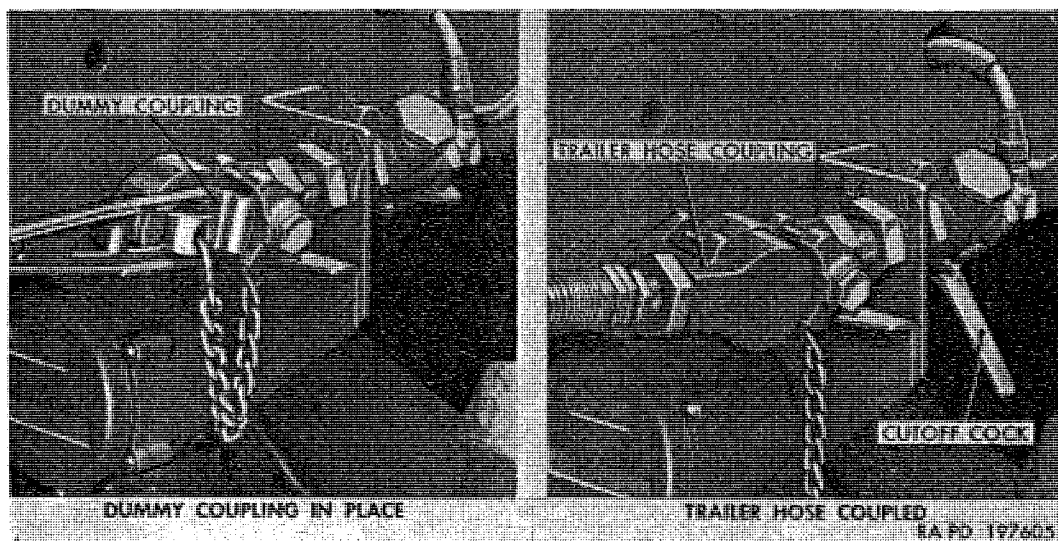
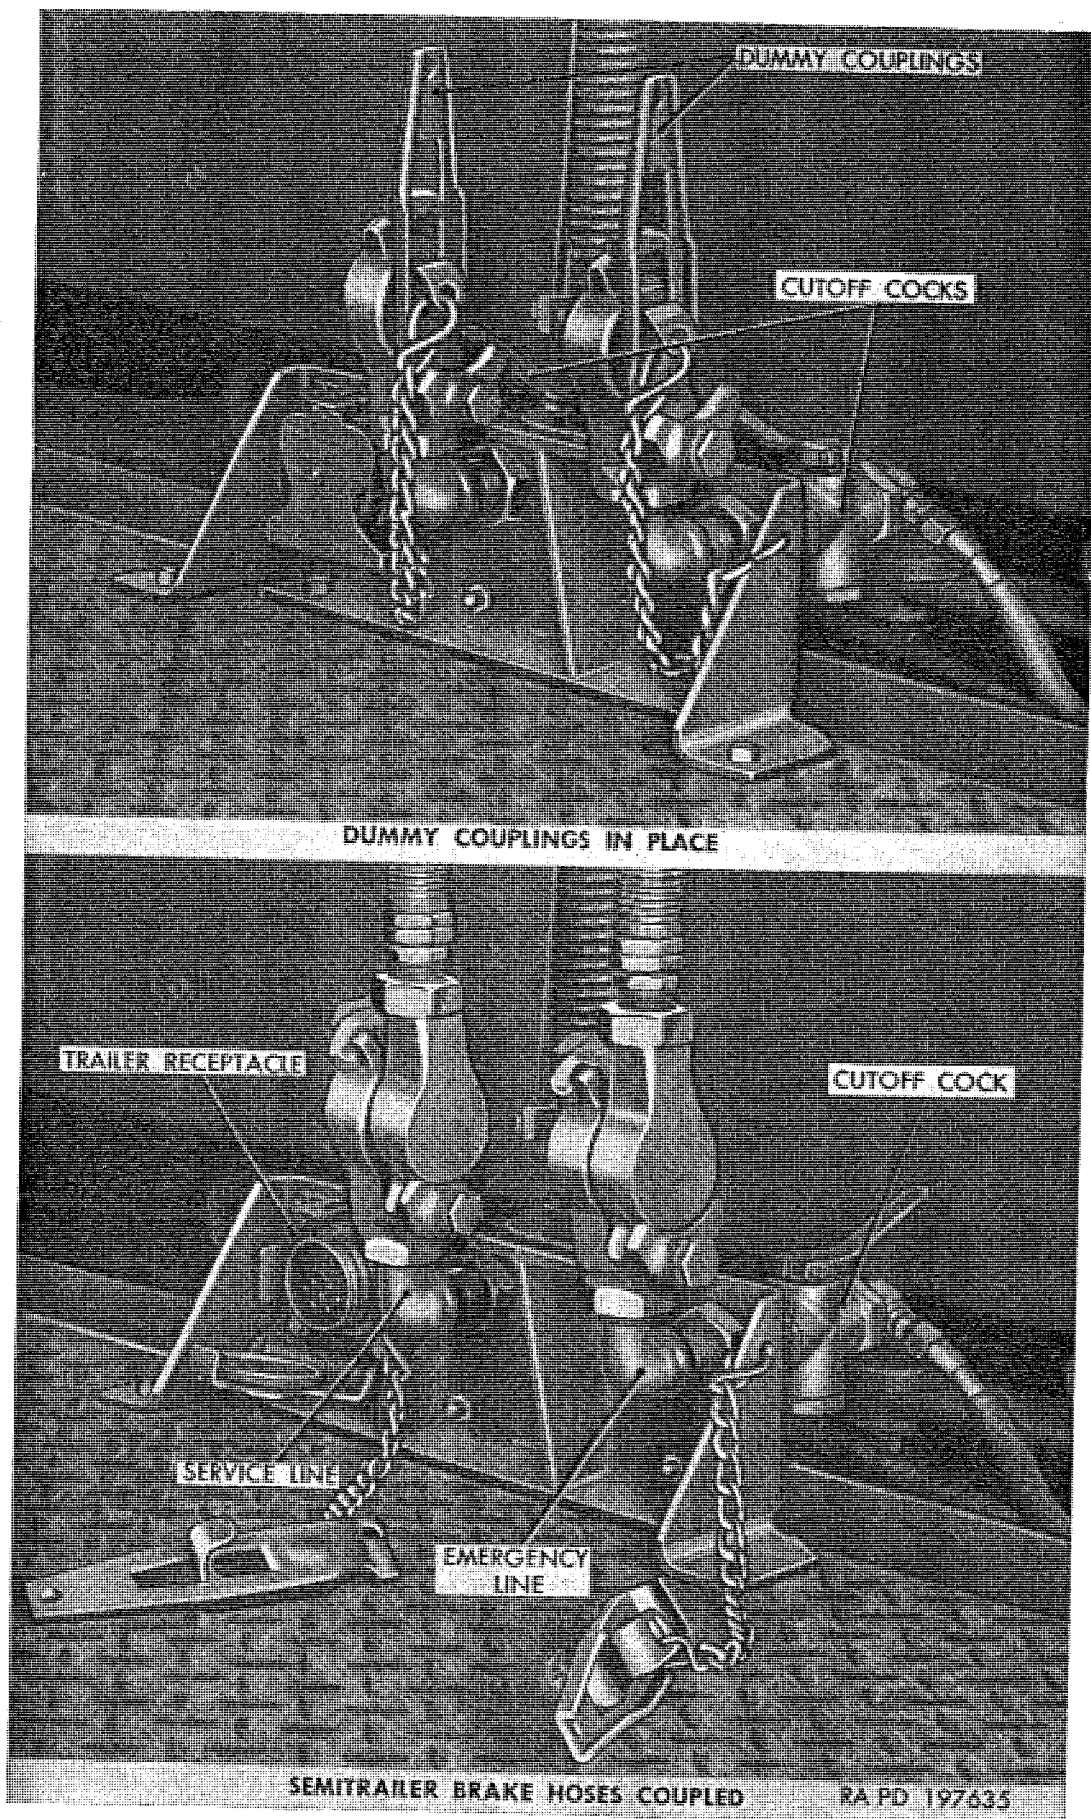
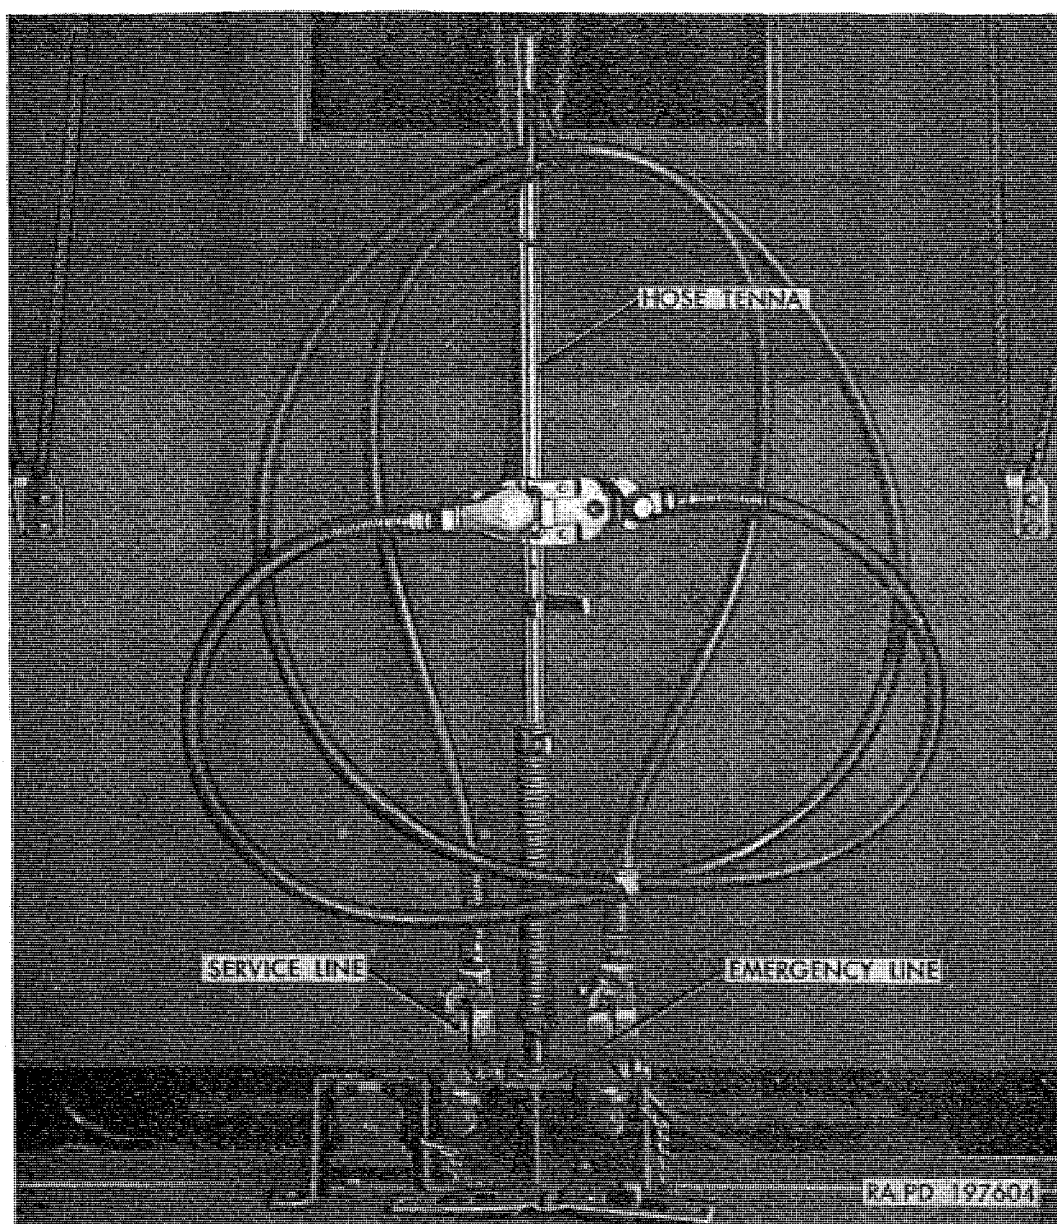

Figure 34. Trailer brake connection at rear of vehicle (*EMERGENCY* line shown).
Figure 35. Semitrailer brake connections at rear of cab (truck tractor M221).
Figure 36. Semitrailer brake hose-tenna and connections (truck tractor M221).
- (1) *Rear of vehicle* (fig. 34). All vehicles, except gasoline tank truck M217 and water tank truck M222, are equipped with an air line coupling at rear end of vehicle on right and left sides. Coupling at right side of vehicle, marked EMERGENCY, delivers a constant supply of compressed air to trailer brake system. Coupling at left side of vehicle, marked SERVICE, delivers air pressure to trailer operating valve when vehicle service brakes are applied. A cutoff cock at
(2) *Tractor semitrailer connections.* The truck tractor M211 is equipped with semitrailer air line couplings at rear of cab (fig. 35) in addition to those provided at rear of vehicle. These couplings are marked and function in same manner as described in (1) above. Two trailer hose and coupling assemblies are mounted on a hose-tenna as illustrated in figure 36. The hose-tenna is flexible, permitting movement of hose connections to prevent breakage of hoses when connected to semitrailer.
(1) *Connecting trailer brake lines.* When connecting trailer brake couplings at rear of vehicle (fig. 34) or at semitrailer connections at cab of tractor (fig. 35), remove dummy coupling from *EMERGENCY* and *SERVICE* couplings on truck and trailer. Couple trailer *EMERGENCY* and *SERVICE* line coupling halves to truck *EMERGENCY* and *SERVICE* line coupling halves, making certain that the
- (2) On truck tractor M221, a semitrailer receptacle is mounted at rear of cab adjacent to the trailer brake lines (fig. 35). Main light switch controls semitrailer lights in same manner as explained in (1) above. In addition to connections for trailer lights, the trailer light receptacle at rear and at cab on the truck tractor M221 includes an auxiliary power circuit for operation of auxiliary units in trailer.